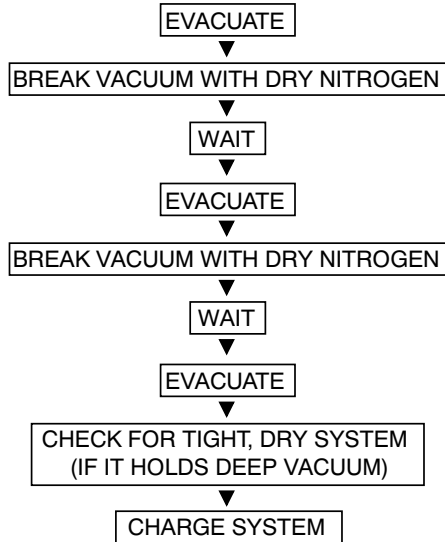

Fig. 28 – Triple Evacuation Method
The triple evacuation method should be used when vacuum pump is only capable of pumping down to 28 in. of mercury vacuum and system does not contain any liquid water. Refer to Fig. 28 and proceed as follows:
11. Repeat this procedure as indicated in Fig. 28. System will then be free of any contaminants and water vapor.